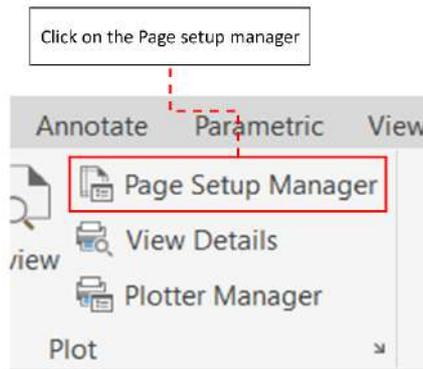
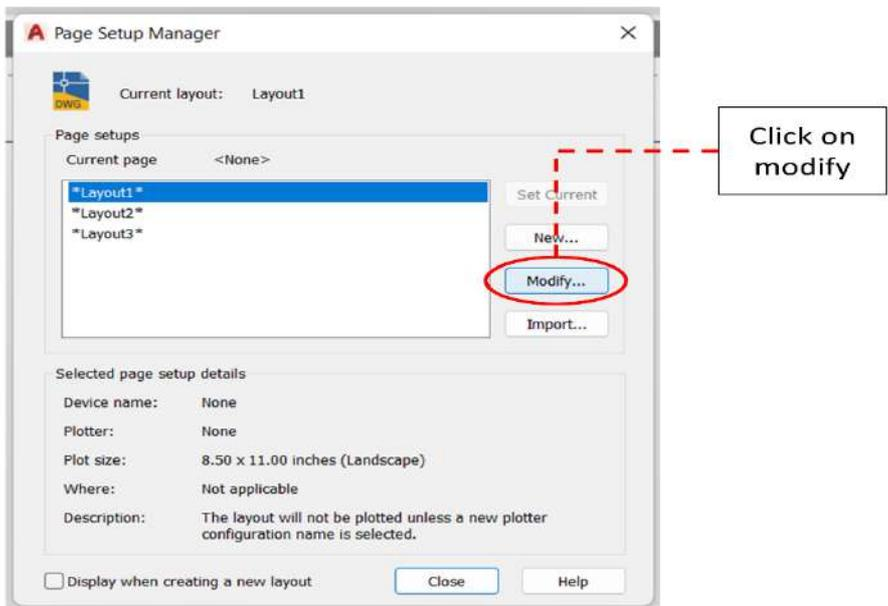

Fig. 5.5: Page setup manager
Fig. 5.6: Modifying the layout
Step 3: Inside the Page Setup Manager dialog box, click the "Modify" button (refer to Fig. 5.5). This will bring up the Page Setup - Layout1 dialog box (see Fig. 5.6).